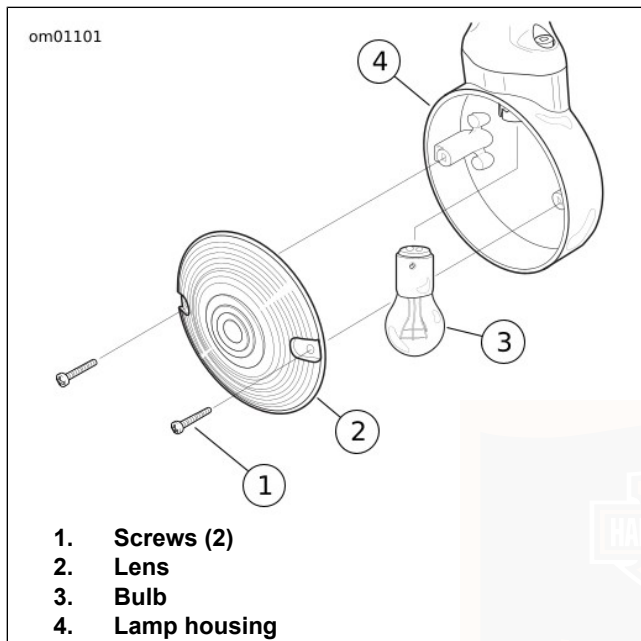

Figure 90. Turn Signal Lamp Assembly: Flat Lens Style
1. See Figure 90. Remove two screws (1) to release lens (2) from lamp housing (4).
2. While pushing bulb (3) in, rotate counterclockwise to remove.
6. Secure lens (2) to lamp housing (4) with two screws (1).